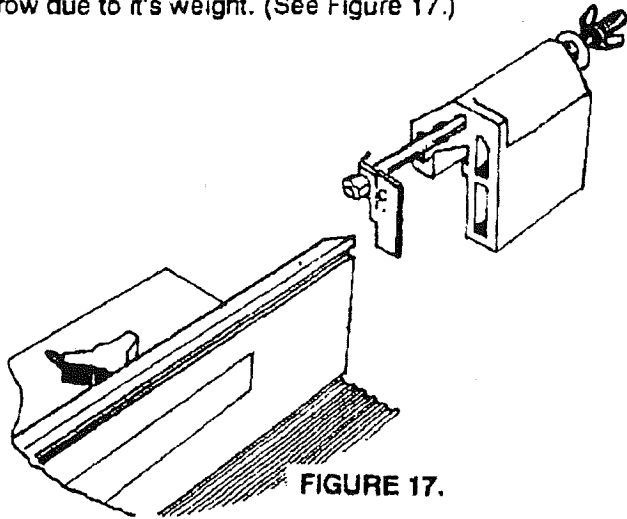
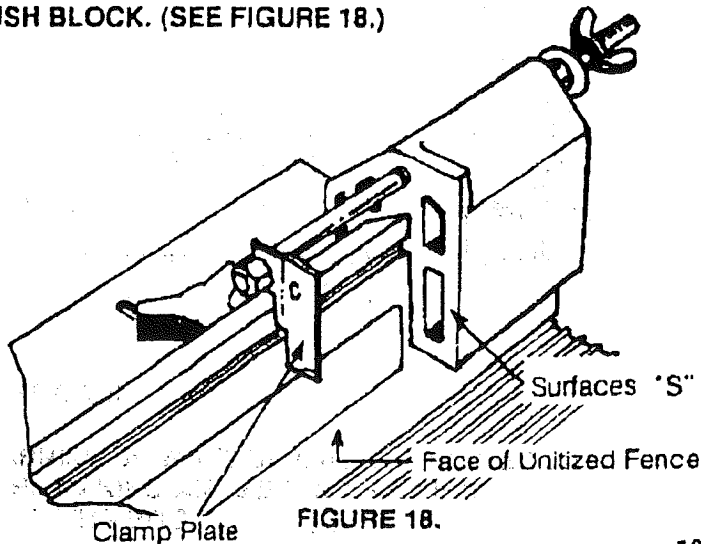

FIGURE 17.
FIGURE 18.
3. Insert the opposite threaded end of clamp rod through hole in push block and install a flat washer and a wing nut onto it. (Refer to Figure 18.)
Clamp plate when free, tries to swing in the direction of arrow due to it's weight. (See Figure 17.)
1. Mount push block assembly on the unitized fence by supporting clamp plate against the face of the fence (Figure 18.) and aligning retaining rib on push block with the groove in the face of unitized fence. (See Figures 17 and 18.)
FOR ROUTING ON ENDS (TENONS, SLIDING DOVE-TAILS, ETC.) THE WORKPIECE IS HELD AGAINST FACE OF UNITIZED FENCE AND CLAMPED BETWEEN CLAMP PLATE AND SURFACE "S" OF PUSH BLOCK. (SEE FIGURE 18.)
2. Mount push block assembly on unitized fence as shown before in Figures 17 and 18.